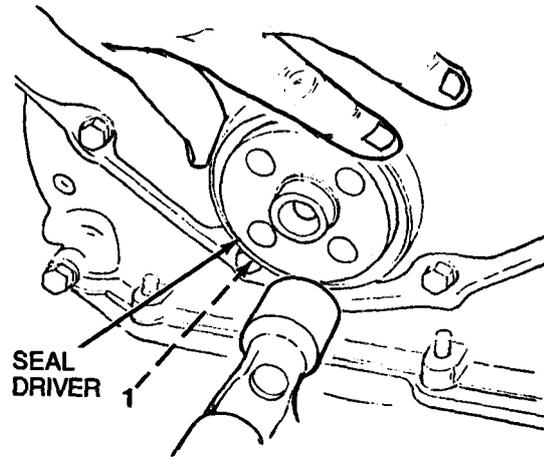

Figure 6-3
1. Apply sealant MIL-S-4613 to outside diameter of front seal (1, Figure 6-3).
2. Using a seal starter ring, install new front seal (1) on crankshaft.